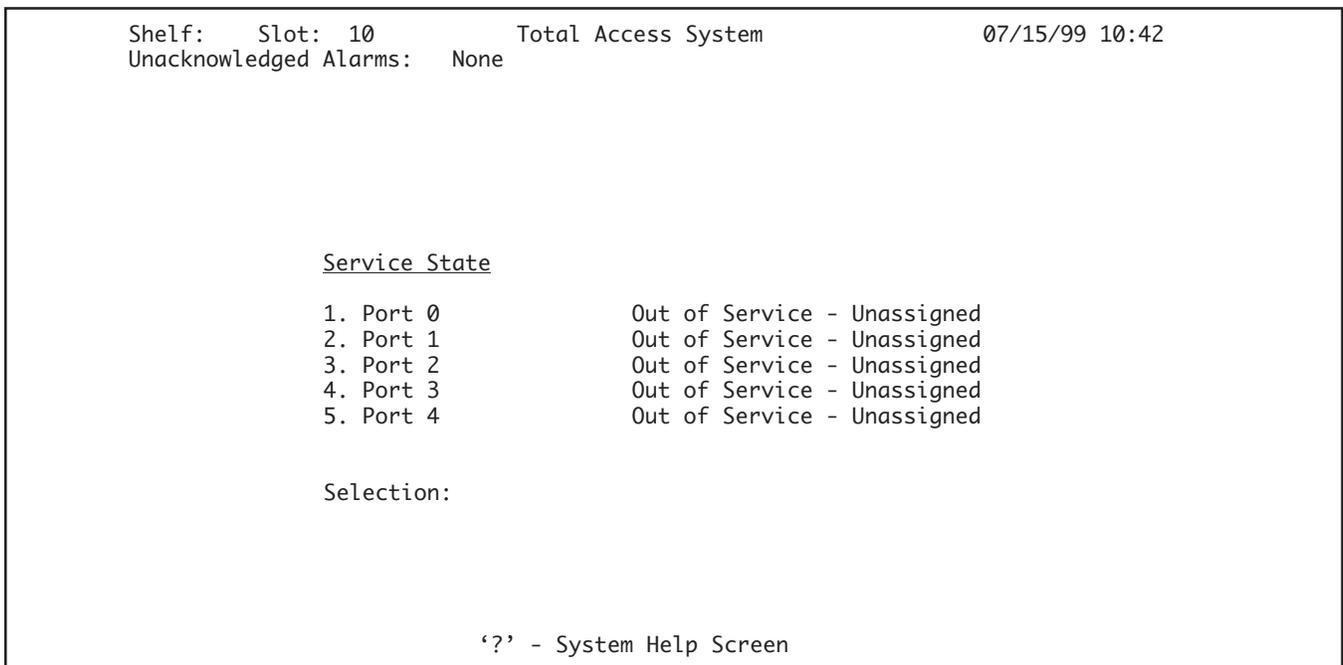

Figure 8. Service State Screen
2. Type “1” and press Enter for the Service State of the individual ports. The Service State Screen (**Figure 8**) will appear.